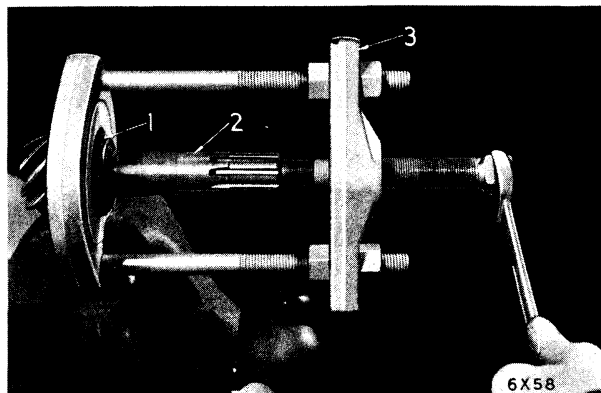

Fig. 30—Removing Bearing from Axle Drive Pinion
- (4) Remove the oil slinger, bearing cone, spacer and shims (if so equipped), pinion adjusting washer, bearing cone and pinion from carrier housing.
- (5) To remove or install the rear bearing from (or on) drive pinion, use special Tool DD-914 (for Model C-70) and Tool C-293-C for all other models (Fig. 30).